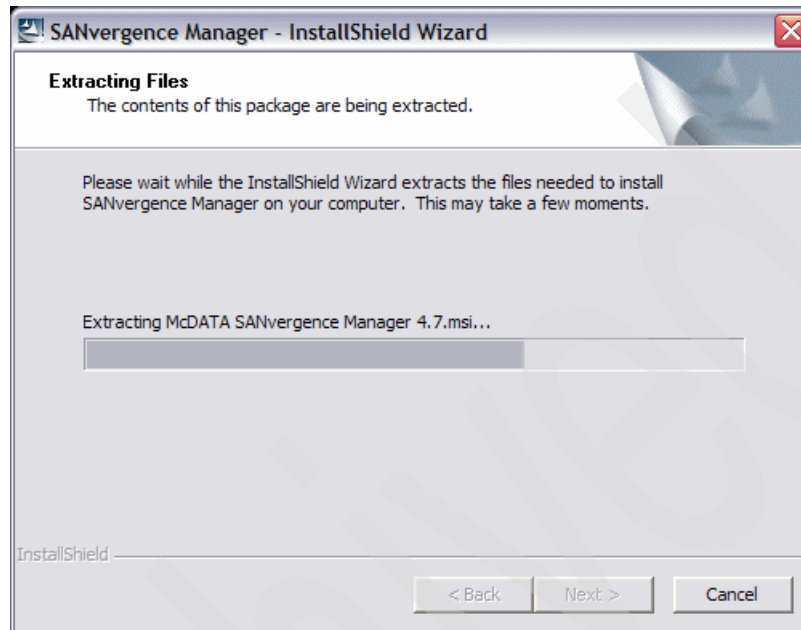

Figure 17-7 Extracting SANvergence Manager code for installation
1. The installation begins with extracting the files, as shown in Figure 17-7.